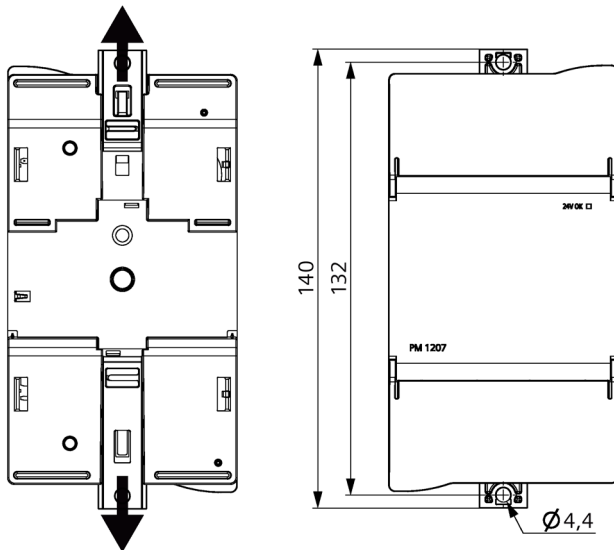

Figure 3-2 Wall mounting
For wall mounting on a flat surface, place the device with the sliders ⑥ (extend the slider until it snaps into place) over the holes and fix in place using suitable screws. For the holes, see Figure 3-2 Wall mounting (Page 16)